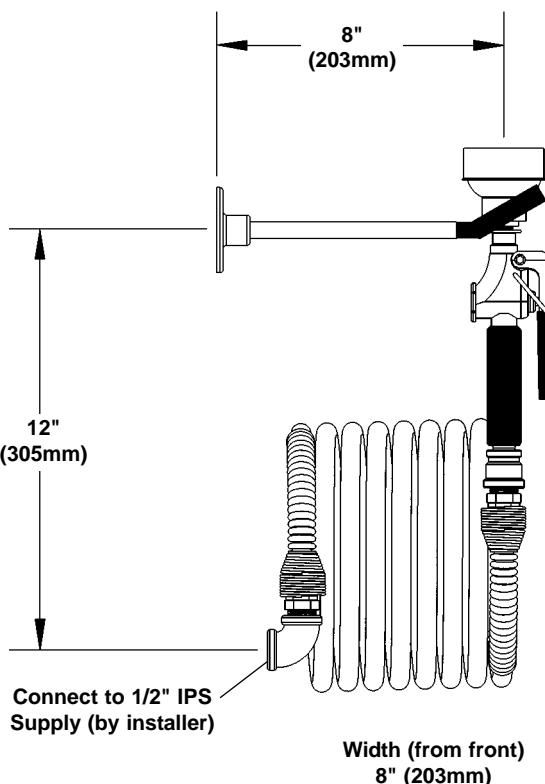

Figure 1
1. Connect 1/2" IPS elbow provided to 1/2" IPS supply piping from wall (see Figure 1).
2. Connect end of hose assembly to 1/2" IPS elbow installed in Step 2, procedure #1 (see Figure 1).